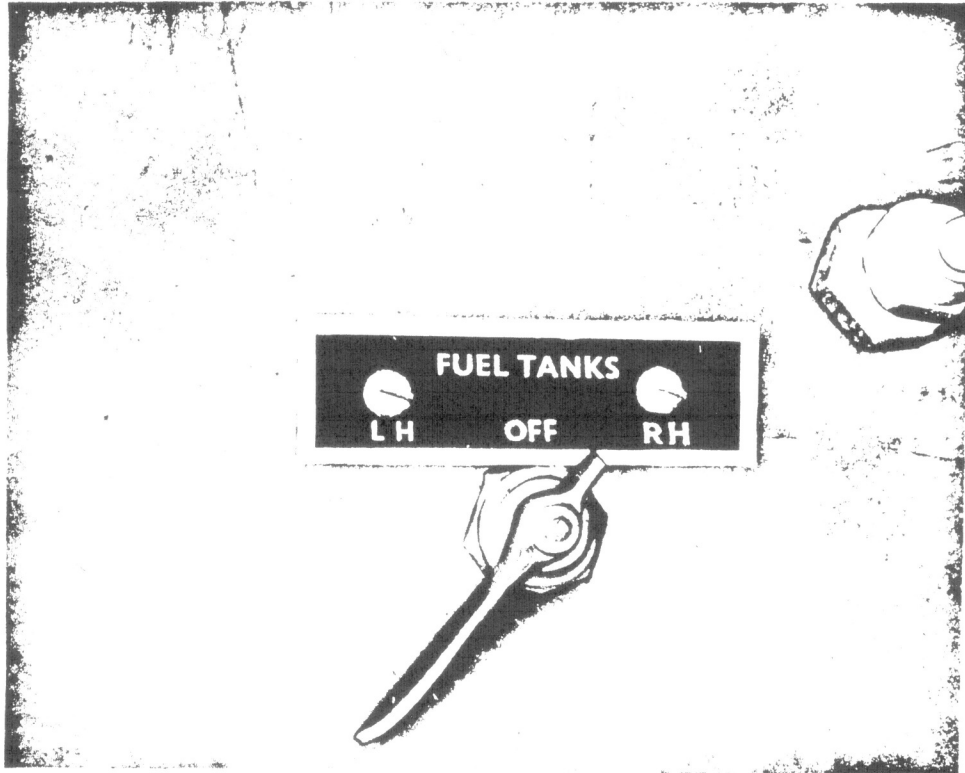

FIG 2 - SELECTOR LEVER
- p. Drill two 9/64 inch diameter holes through the cab floor, using the existing Plate, Instruction, fuel tank selector as a templet for the hole positions and fit the instruction plate in the position as shown in fig 2. Secure with the two existing self-tapping screws.
- q. Enlarge the original fuel cock plug hole to 3/4 inch diameter and blank off with Rubber Blanking Grommet (item 12).
10. Deface the figure 2 on the modification plate on the instrument panel.